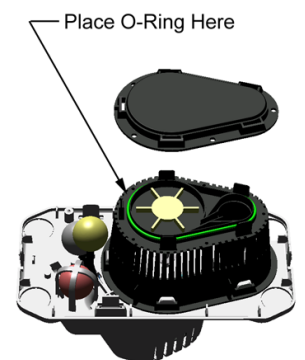

Figure 7
8. Stretch the O-ring around the pumping chamber inside the snaps. (Figure 7)